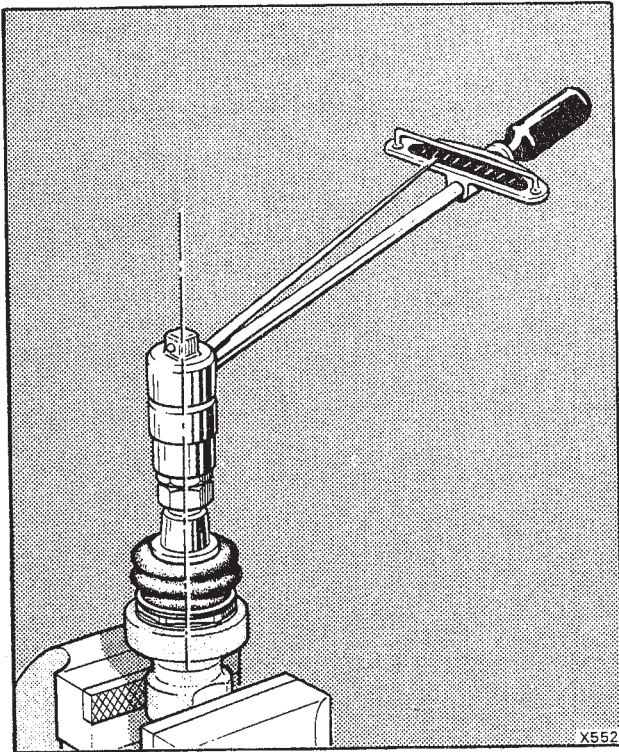

Fig. H12 Checking the ball joint pre-load
2. Hold the ball joint housing in a vice. Screw the new ball joint assembly into the housing without fitting the pre-load shims. Fit and lock together two nuts onto the ball pin (see Fig. H12).